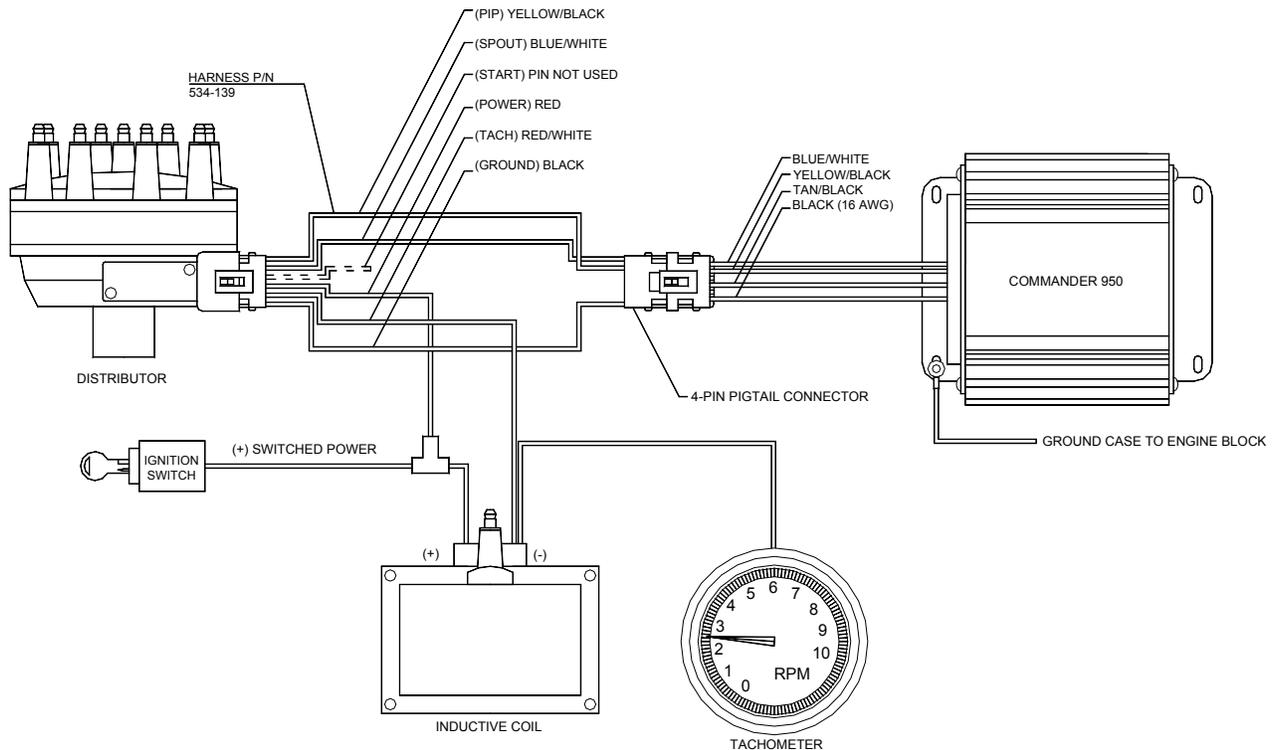

Figure 74
- Figure 74:** Commander 950 PRO to Ford TFI Ignition Using Ford Computer Controlled Distributor, TFI Module.